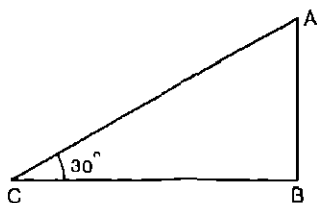

FIG. 99.  $\cosine 30^\circ = \frac{CB}{CA}$
**I. Introduction.**—Cosine may be introduced by further study of similar, right-angled, triangles, Fig. 99. As a rule, little